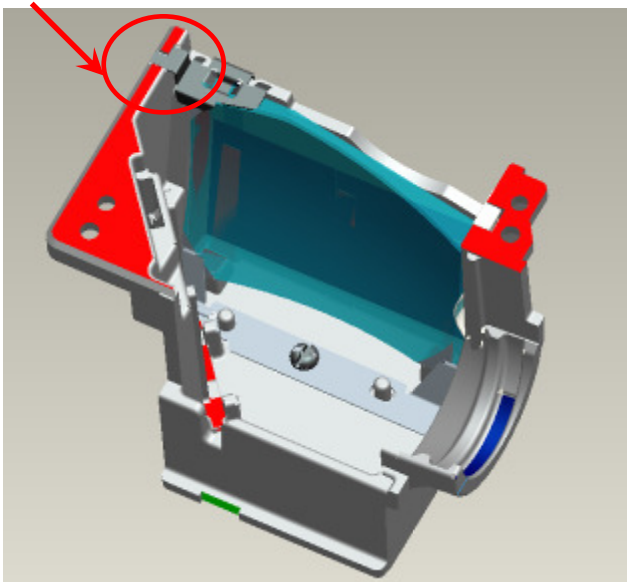

Fig. 3-9
- (4) Assemble Clip CM Up to Sub HSG & Check the feature for Clip CM Up XGA. (Fig. 3-9,).